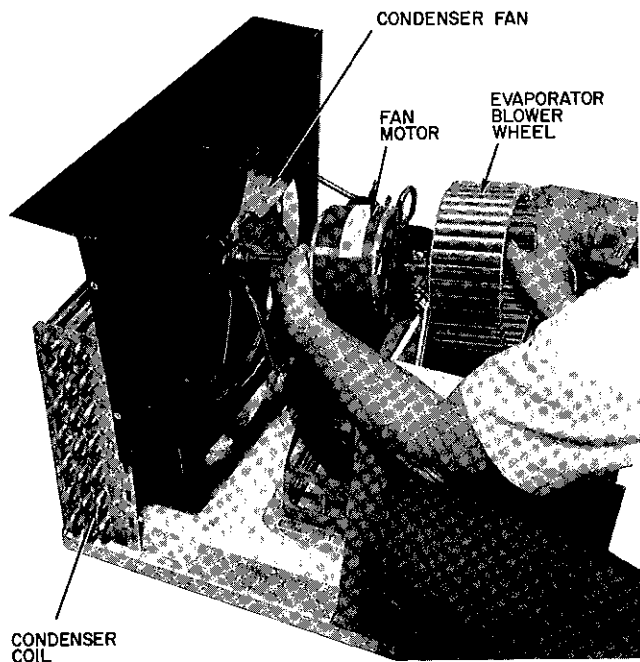

Fig 32 — Evaporator Fan Section
36 **Fan Section** — See Fan Section in Fig 32
- i Gently lift fan assembly out of chassis See Fig 32
37 **Evaporator Fan** — See Evaporator Fan in Fig 32
38 **Condenser Fan** — See Condenser Fan in Fig 32
39 **Fan Motor** — See Fan Motor in Fig 32
42 **Evaporator and Condenser Coils** — See Evaporator and Condenser Coils in Fig 32 and 33 These coils have copper tubing and the interconnecting tubing has been manufactured as an integral part of the coil to aid in servicing